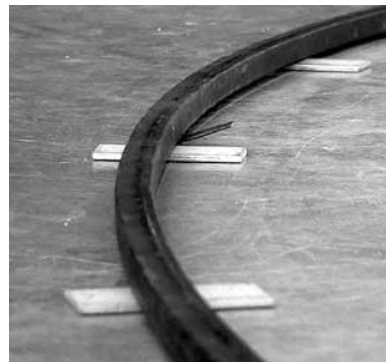

Fig. 50: Lifting the frame pieces before welding
**Step 7** Weld the 14 Fcbs (frame crossbar connectors) to F1, F2, F3 and F4. See Fig.50